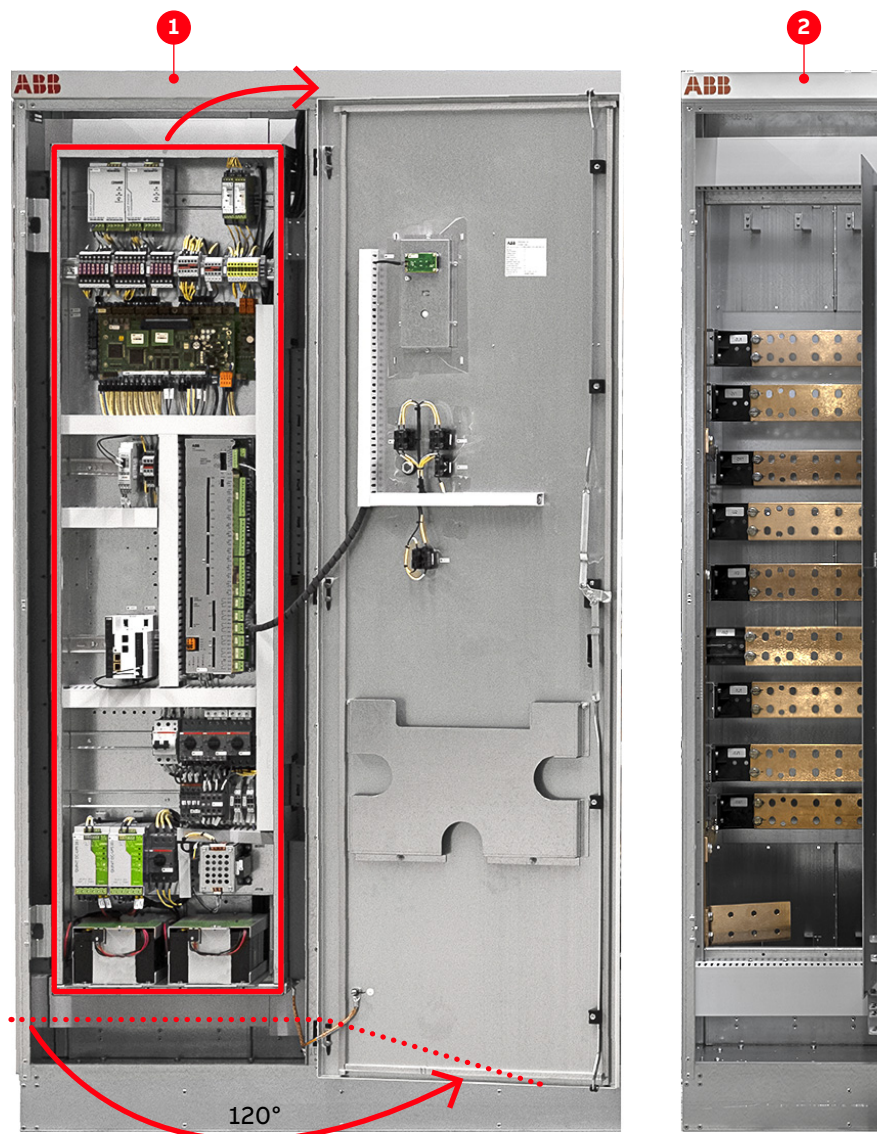

Figure 3-5: Control and terminal compartment
- **Control compartment (1 in Fig. 3-5):** the control compartment in the front contains the hardware of the control system of the drive.
- **Terminal compartment (2 in Fig. 3-5):** the terminal compartment in the back contains the busbars for the feeder and motor cables, the ground cable and the cable screens. A hinged bolted partition separates the terminal compartment from the control compartment.